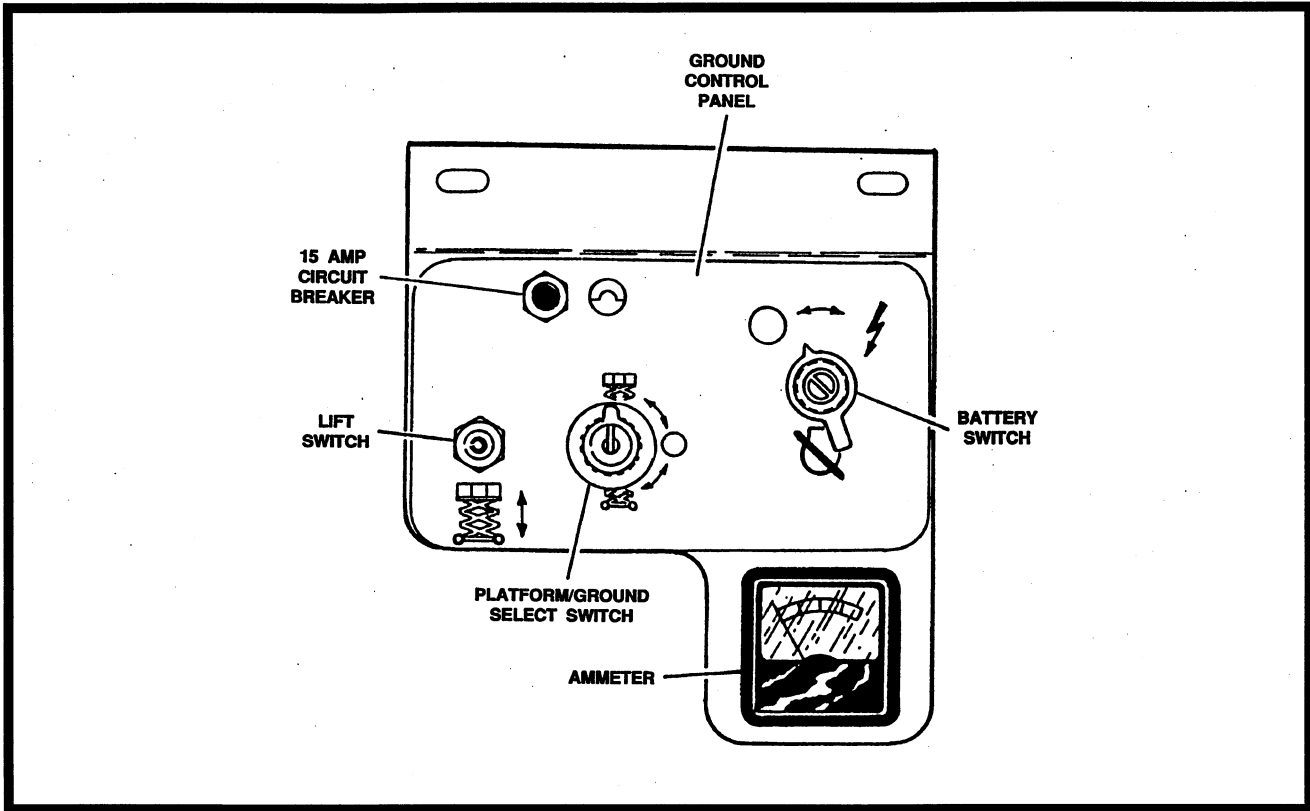

Figure 3-1. Ground Control Station - CM1432.
a. Ground Control Station. (Figure 3-1.)